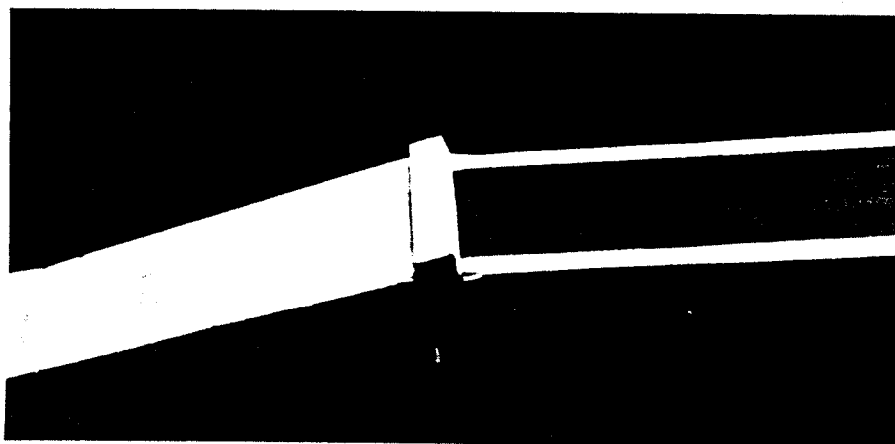

Fig. 11-1. Install the anti-slide block just behind the wing saddle.
6) Anti-slide block: Nowhere in THE MANUAL does it tell you to install this item, but you should. Make the block of 1/4" plywood scrap and glue it just behind the wing saddle as shown in Fig. 11-1.